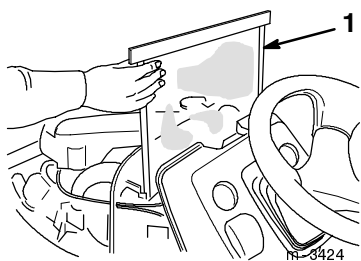

Figure 9
4. Pull the radiator screen (Fig. 9) up from the retention slot between the radiator and the tractor dash.